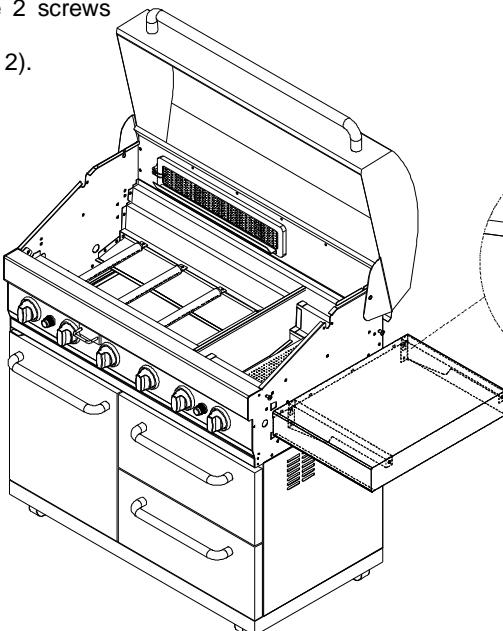

Figure 1
- Align the Right Side Shelf keyholes with the 2 screws (Fig. 1) and tighten the 2 screws securely from the underside of Side Shelf.